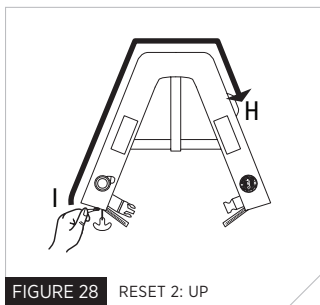
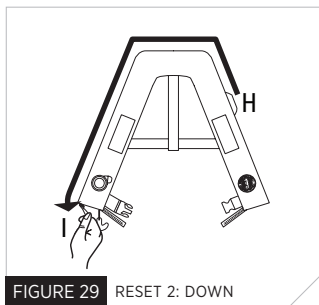

FIGURE 28 RESET 2: UP
FIGURE 29 RESET 2: DOWN
8. Reset 2: Pull the slider (I) to the Velcro™ tab (H) (Fig. 28). Close by pulling slider (I) in the opposite direction to the end of the zipper (Fig. 29). Ensure that the inflatable cell does not get caught by the zipper when closing.